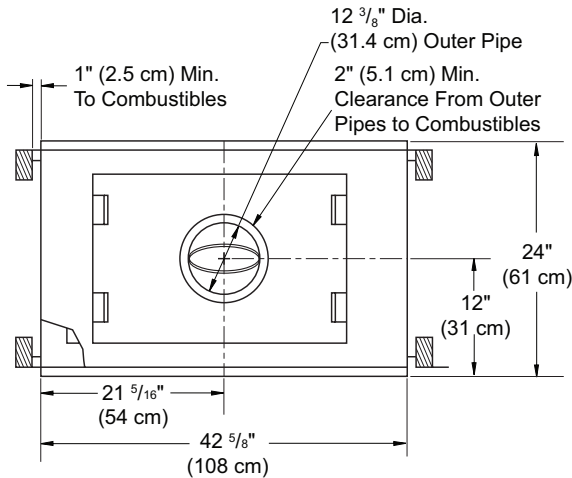

Figure 6 - Framing Clearances
1. Frame opening for fireplace using dimensions shown in Figures 6 and 7.